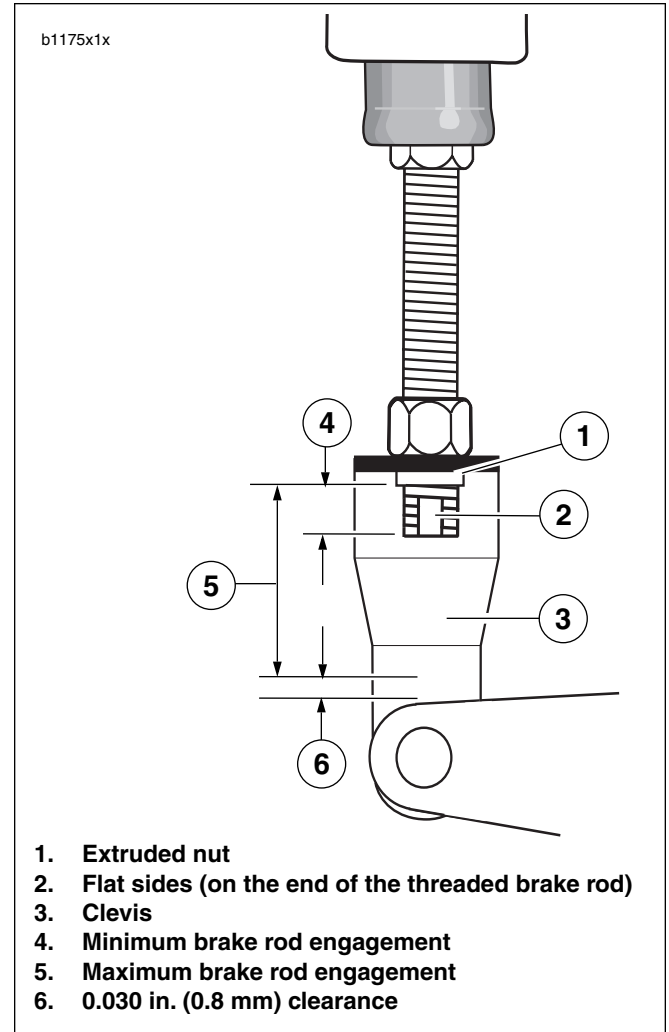

Figure 1-14. Brake Rod Engagement
- See Figure 1-14. On the very end of the threaded brake rod, are two flat sides (2). To ensure thread engagement with the clevis (3), the flat sides must extend below the extruded nut (1) in the clevis by at least one full thread. This is the minimum brake rod engagement (4).
- Also, there should be a minimum of 0.030 in. (0.8 mm) clearance (6) between brake rod end and brake pedal (6). This is the maximum brake rod engagement. (5)